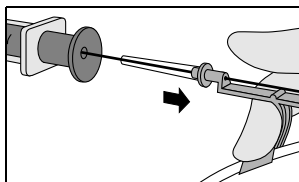

Fig. 5
4. Raise your thumb and pull Arrow Advancer™ approximately 4 - 8 cm away from syringe. Lower thumb onto Arrow Advancer™ and, while maintaining a firm grip on the spring-wire guide, push assembly into syringe barrel to further advance the spring-wire guide. Continue until spring-wire guide reaches desired depth (refer to Fig. 5).